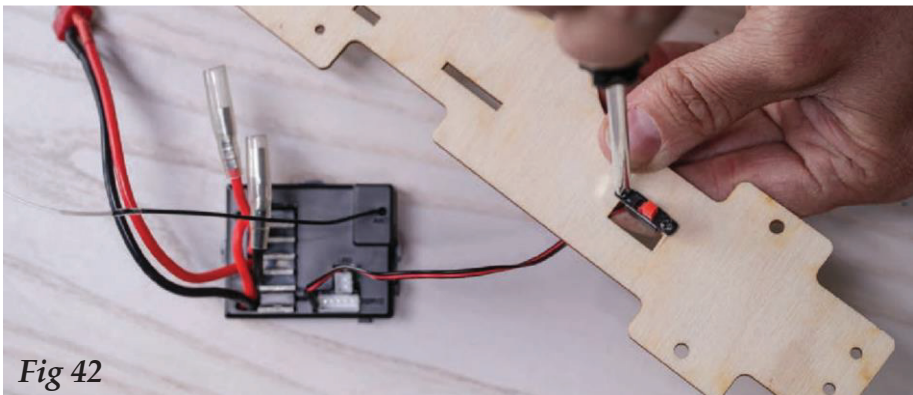

Fig 42
- 8 Next, pop out **B5**, the upper frame of the car. Install the switch connected to the **Receive** into the middle slot of B5 using the included screws (Fig 42). Pass the velcro strap through the two vertical slots to mount the battery during operation.